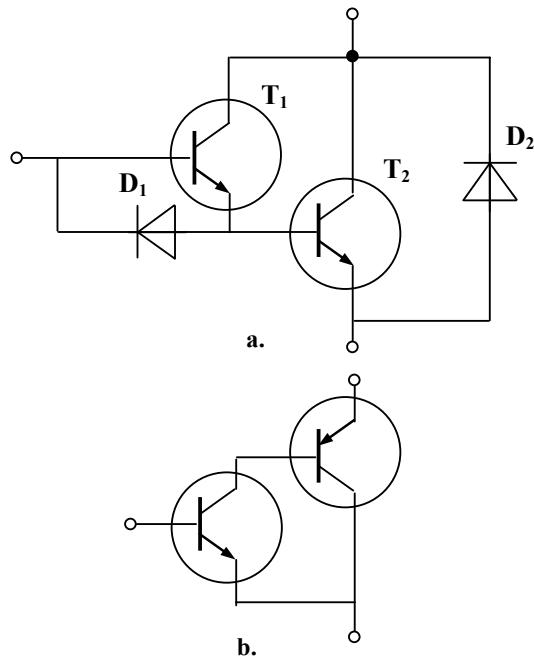

Fig. 1.30
**Darlington transistors.** Since the current gain of power bipolar transistors is small, two transistors are usually connected as a pair (Fig. 1.30,a). Such connection consists of the
The complementary Darlington circuit shown in Fig. 1.30,b is a combination of the pair of bipolar transistors of different structures. Its current gain is equal to